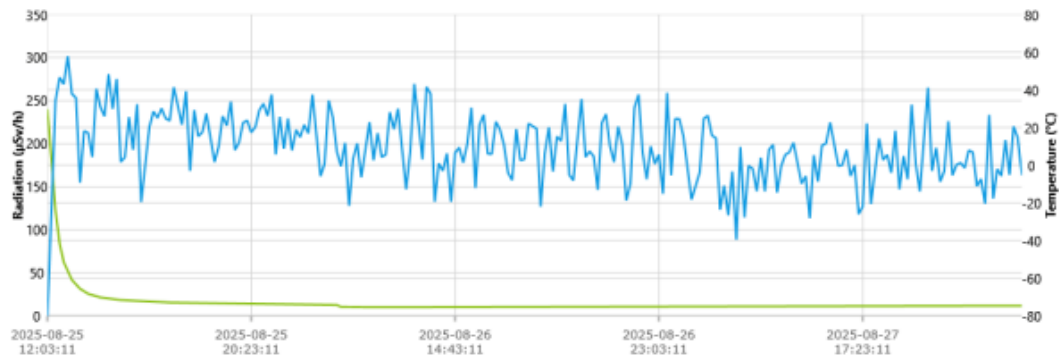

Figure 24. Example PDF File Printout
4. **Print Data** – Generates a **PDF report** (see **Figure 24**) containing graph, list, and parameter summary for regulatory and quality documentation.